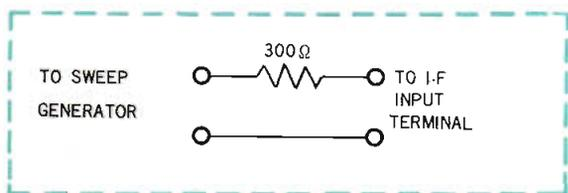

Fig. 3-1 Dummy circuit
3. Dummy circuit See Fig. 3-1.